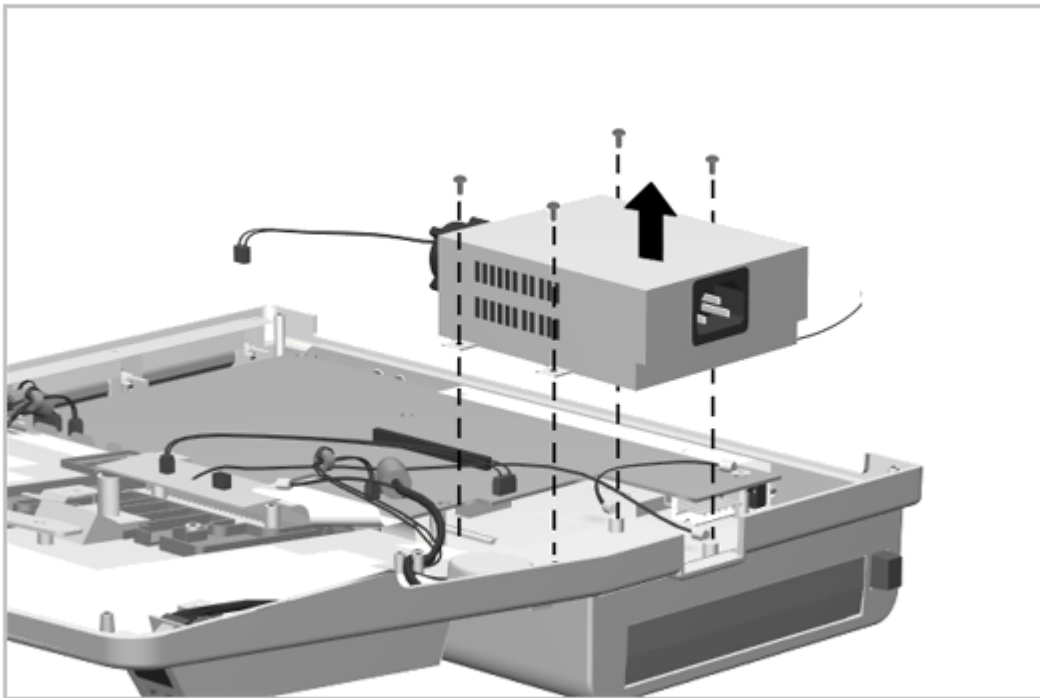

Figure 6-13. Removing the Power Supply Screws and Power Supply
5. Note the routing of the ground wires attached to the rear power supply screws. Remove the four screws and lift the power supply out (Figure 6-13).